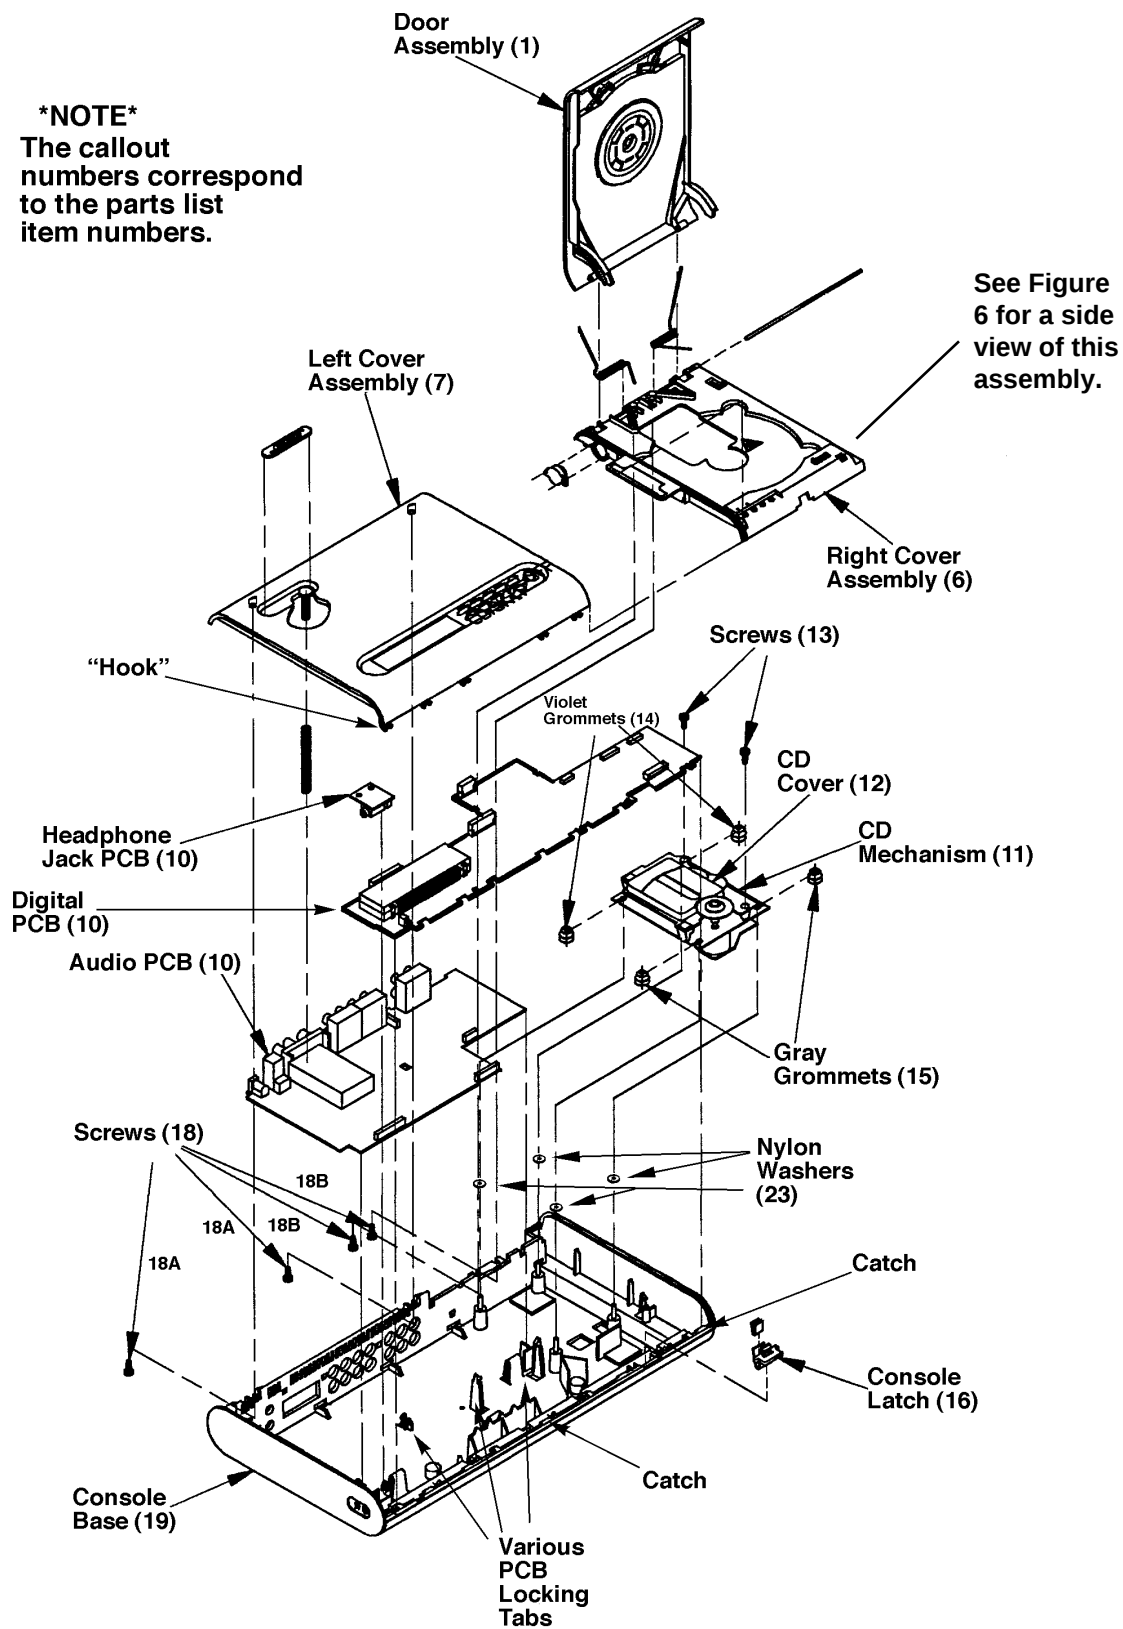

Figure 3. Labelled Exploded View
Note: Refer to Figures 3 and 5 for Procedures 1 and 2.
Note: Refer to Figures 3, 5 and 6 for Procedures 3 and 4.
Note: Refer to Figures 3, 4 and 7 for Procedures 5 and 6.
6.2 Slide the violet (14) and gray (15) grommets into their respective slots on each corner of the mechanism. See Figure 3 for their proper locations.
6.5 Place the mechanism on the four metal posts located in the base (19). Position as shown in Figure 3.
Note: Refer to Figures 3 and 7 for Procedures 7 and 8.
7.3 There are four black plastic tabs that hold the PCB (10) in position. See Figure 3. Flex them carefully outward and pull the PCB up and out.
Note: Refer to Figures 3 and 7 for Procedures 9 and 10.
Note: Refer to Figures 3 and 7 for Procedures 11 and 12.